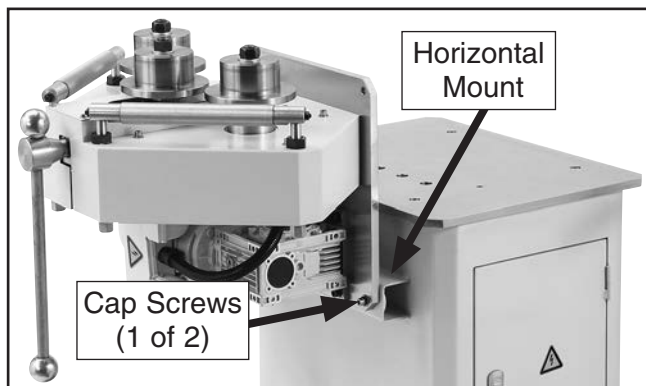

Figure 21. Headstock in horizontal position.
3. With help of an assistant, gently tilt headstock backward until it rests on horizontal mount, as shown in **Figure 21**.
4. Use cap screws removed in **Step 2** to secure headstock to horizontal mount (see **Figure 21**).